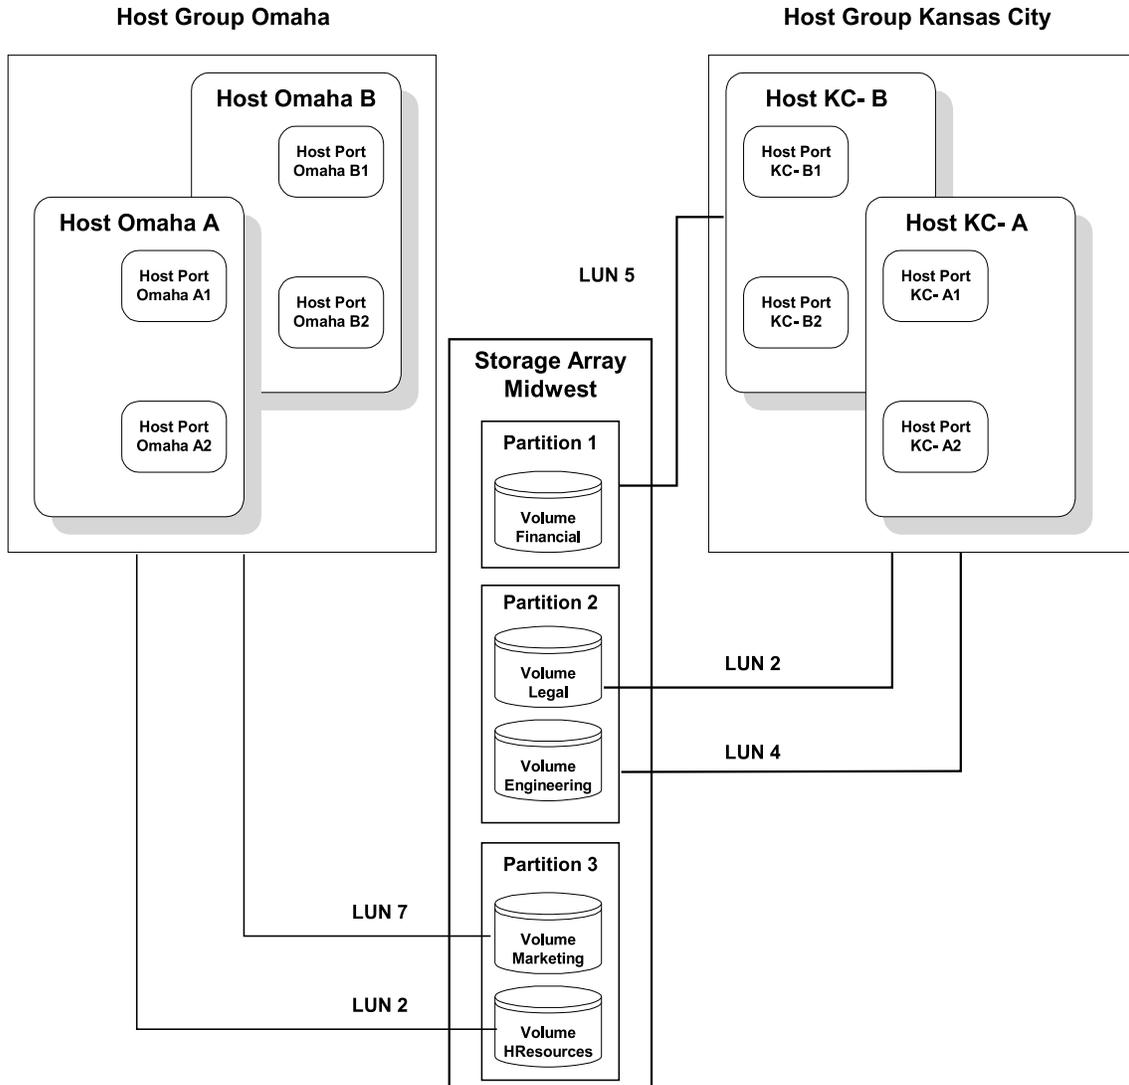

Figure 2-2 Storage Partitions Example
Logical unit number (LUN)	<p>The number a host uses to access a volume. Each host has its own LUN address space. Therefore, different hosts may use the same LUN to access different volumes. However, a volume can only be mapped to a single LUN and a single host group or host.</p> <p>For example, Host 1 may access volume Engineering by using LUN 5 and Host 2 may also access volume Financial by using LUN 5 (see Figure 2-2 on page 31).</p>
In the example shown in Figure 2-2 on page 31, four hosts (Omaha A, Omaha B, KC-A, and KC-B) are connected to storage array Midwest. In our example, you want Omaha A and Omaha B to have access to volumes Marketing and HResources, and you want KC-A and KC-B to have access to volumes Legal and Engineering. You also want host KC-B to have exclusive access to volume Financial. Therefore, you must configure three storage partitions.
- **None (map later).** This setting specifies that a LUN will not be assigned to the volume. It also allows you to define a specific volume-to-LUN mapping and to create storage partitions using the Configure >> Storage Partitioning option. Specify this setting if you will use storage partitions. In Figure 2-2 on page 31, the volumes in storage array Midwest were given this setting. Then after the storage partitions topology was defined (step 2), specific volume-to-LUN mappings were assigned (step 3).
In Figure 2-2 on page 31, all host groups and hosts have specific mappings and can access only the volumes to which they have been granted access through a volume-to-LUN mapping.
In Figure 2-4 on page 35, a new volume-to-LUN mapping is defined for volume HResources, which allows host group Omaha to access this volume through LUN 2, as shown in Figure 2-2 on page 31.